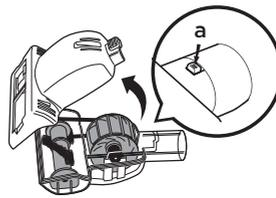

Fig. 25
- 1 Slide the locking latch **(a)** forward and lift off the brushroll housing. **(Fig. 25)**